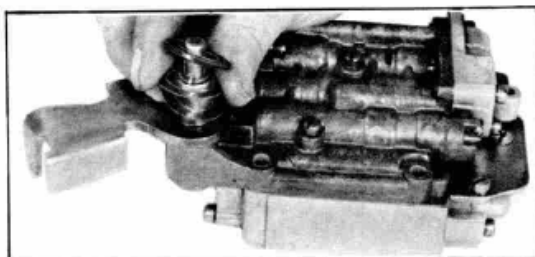

Figure 8
3. Remove the manual shaft rubber seal and outer and inner manual shaft shield washers from the manual shaft, Figure 8.